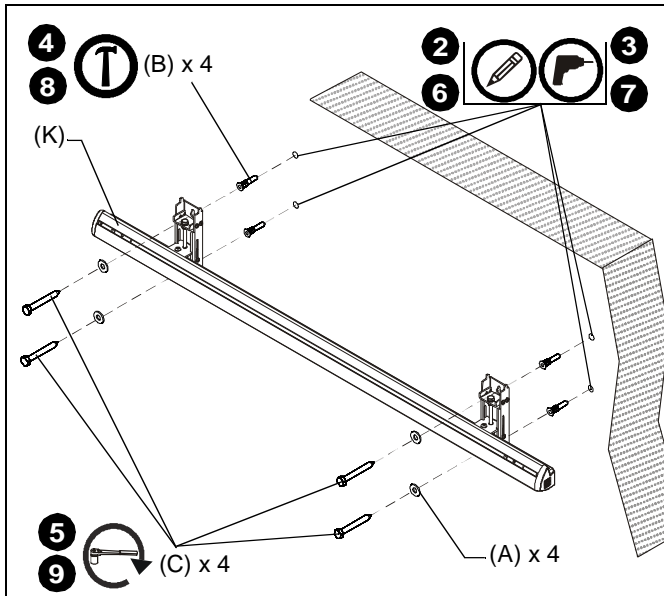

Figure 6
- Using a level, mark the wall above existing chalkboard through top mounting hole in the wall assembly (K). (See Figure 6)
- Drill one 1/4" x 2-3/4" pilot hole at each marking. (See Figure 6)
- Install a toggler (B) into each pilot hole using a hammer. (See Figure 6)
- Use two 1/4-20 x 2-1/2" lag bolts (C) and two 1/4" flat washers (A) to attach wall assembly (K) to anchors in wall. (See Figure 6)
- Mark the wall through the lower mounting hole in the wall assembly (K). (See Figure 6)
- Drill one 1/4" x 2-3/4" pilot hole at each marking through lower mounting hole in wall assembly (K). (See Figure 6)